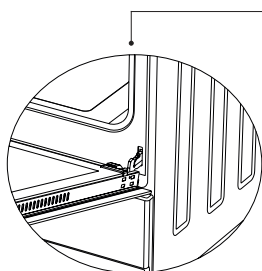

Figure 20.1
1. Completely open the oven door by pulling it to yourself. Afterwards, perform the unlocking process by pulling the hinge lock upwards with the help of a screw driver as shown in figure 20.1.